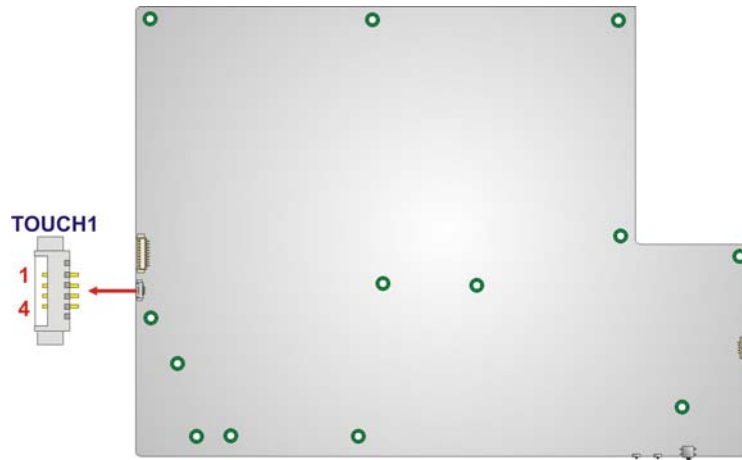

Figure 5-32: Touch Panel Connector Location
- CN Location: See **Figure 5-32**